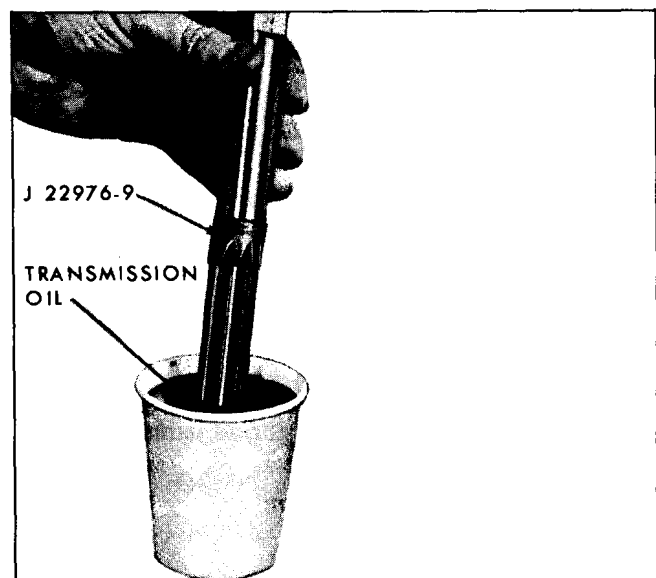

Fig. 7G-130 Cleaning and Lubricating Reamer
- c. After each 10 revolutions, remove reamer and dip it in a cup full of transmission fluid to clean the chips from the reamer and lubricate it (Fig. 7G-130).